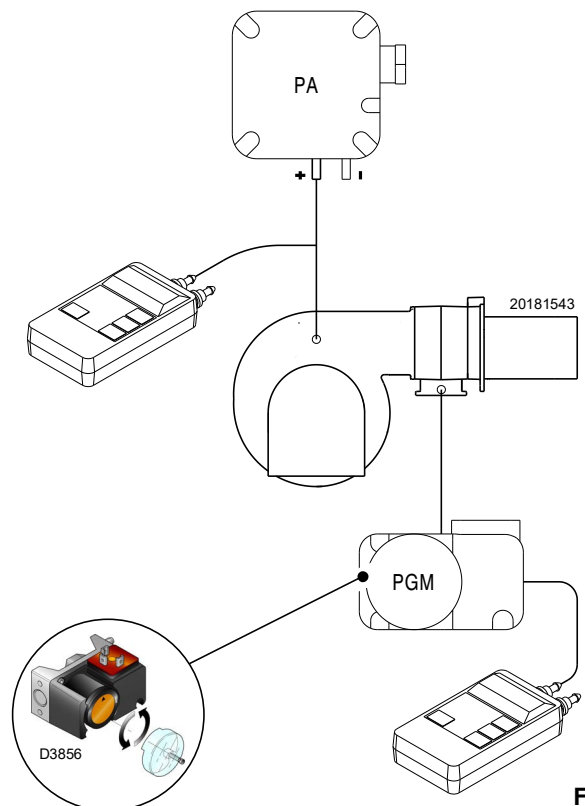

Fig. 39
- Adjust the maximum gas pressure switch (Fig. 39 on page 33) to the end of the scale.
Adjust the maximum gas pressure switch (Fig. 39) after making all other burner adjustments with the maximum gas pressure switch set to the end of the scale.